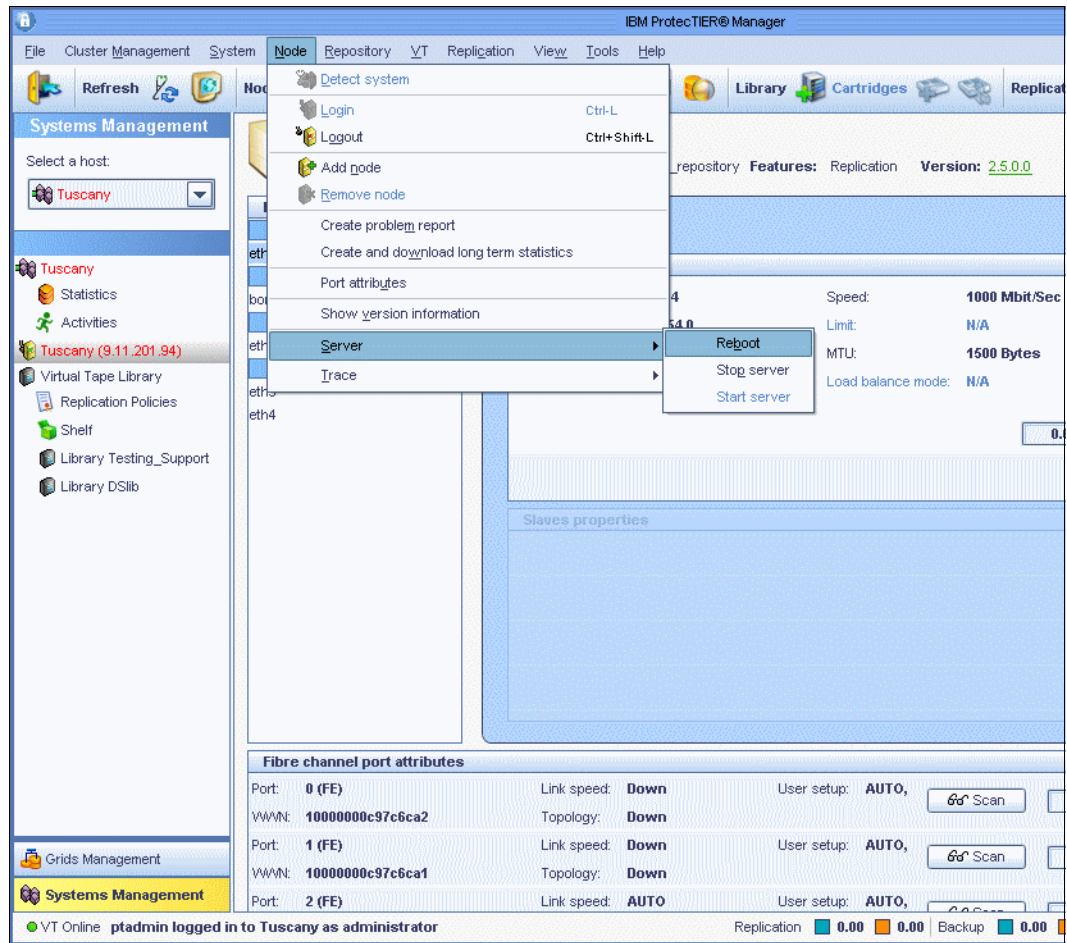

Figure 10-98 Reboot node
2. Select **Node** → **Server** → **Reboot** (Figure 10-98).